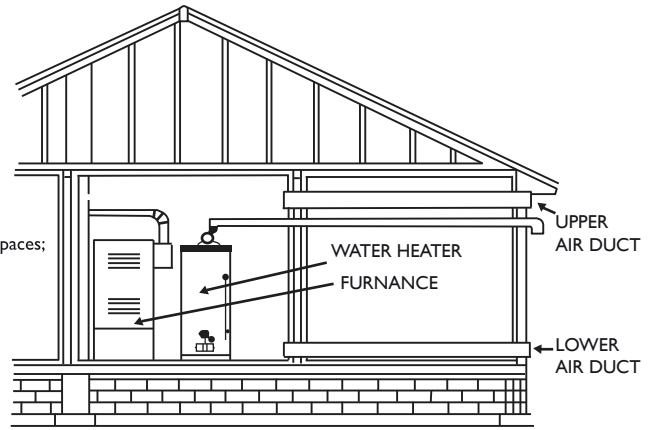

FIGURE 8
1. When communicating with the outdoors through horizontal ducts, each duct opening shall have a minimum free area of 1 square inch per 2,000 BTU per hour of total input rating of all equipment in the enclosure. (Figure 8)